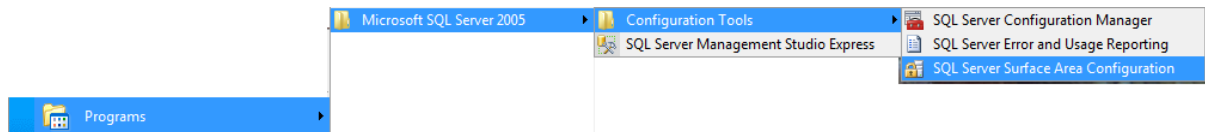

Figure III-5. Command String for SQL Server Surface Area Configuration
5. Click **Start > Programs > Microsoft SQL Server 2005 > Configuration Tools > SQL Server Surface Area Configuration** on the Windows Desktop (Figure III-5).